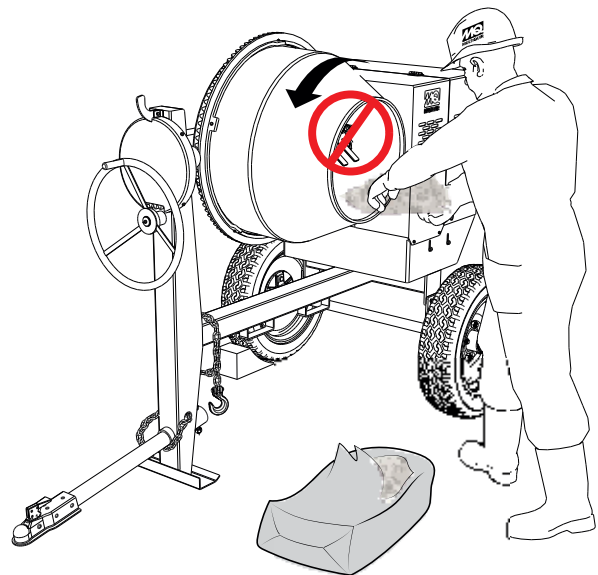

Figure 22. Filling Mixing Drum (WRONG)
3. Placing the shovel all the way inside the drum (Figure 22) will cause the shovel to strike the blades. This condition will make the shovel rotate, and could cause injury to personnel. **NEVER** place hands inside the mixing drum while it is rotating.